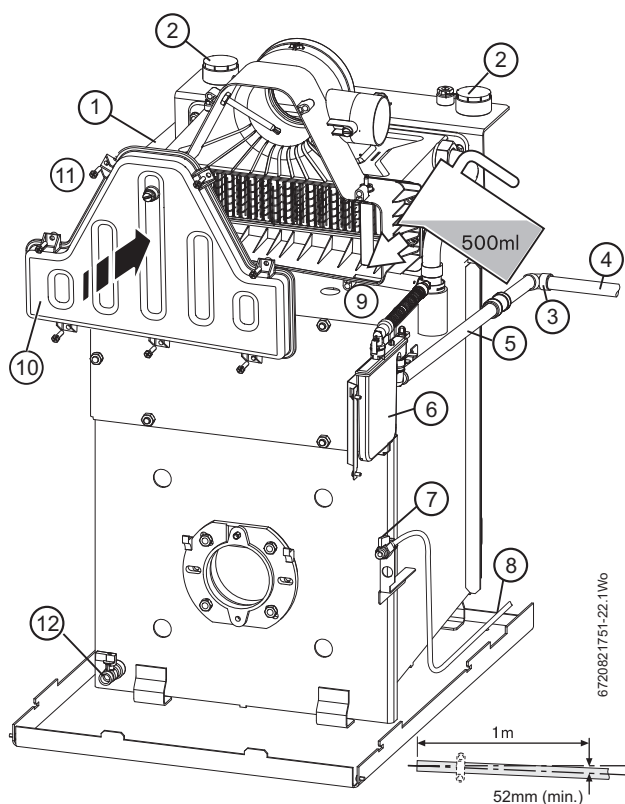

Fig. 33
Refer to figure 33
2. Connect the flexible oil pipe return hose [3] (not supplied) to the oil pump and return pipe fixing and tighten to secure (for routing see figure 33).